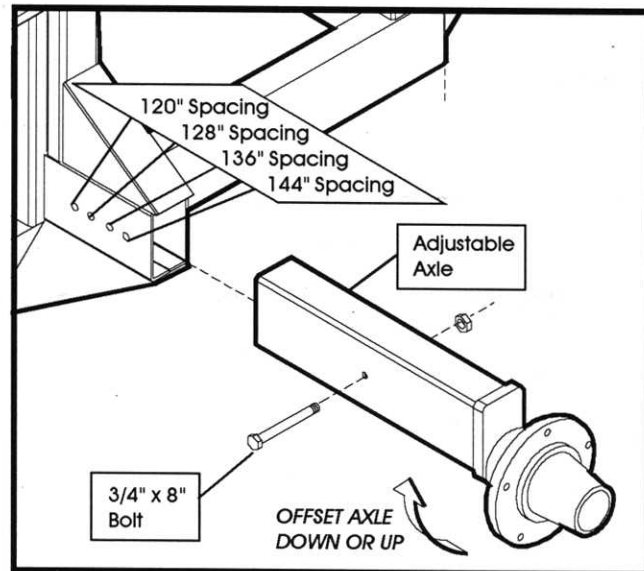

FIGURE 11
1. **Refer to Figure 11.** Jack up both sides of the cart, block up frame and remove tires.